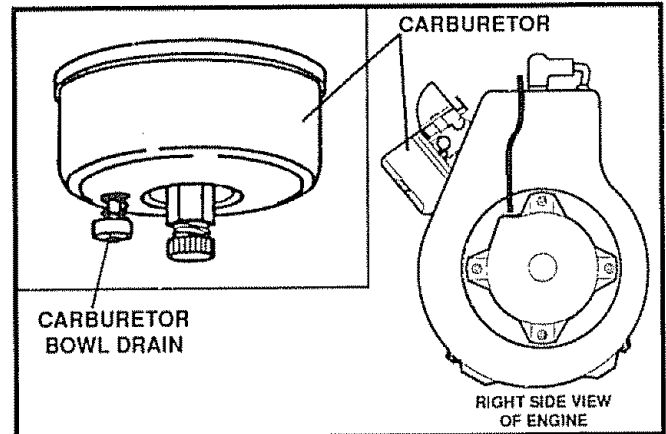

FIG. 16
- To remove gasoline, run the engine until the tank is empty and the engine stops. Then drain remaining gasoline from carburetor by pressing upward on bowl drain located on the bottom of carburetor (See Fig. 16).